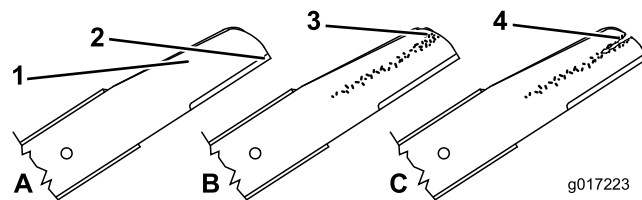

Figure 40
1. Inspect the cutting edges (Figure 40). If the edges are not sharp or have nicks, remove the blades and have them sharpened or replace them.
2. Inspect the blades themselves, especially the curved area (Figure 40). If you notice any damage, wear, or a slot forming in this area, immediately replace it with a new blade.